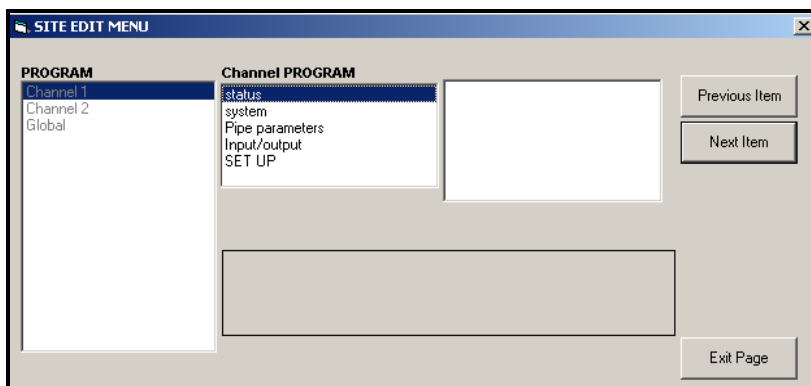

Figure C-10: The *Site Edit Menu* Window
- To enter data into the user program, double-click on the *Site Edit Menu*. The window appears similar to Figure C-10 below.
- To enter a particular menu (Channel 1, Channel 2, or Global), highlight and double-click on the desired menu in the left pane. For example, clicking on Channel 1 in Figure C-10 above opens the list of options shown in the center pane.
3. Double-click on the desired option. PanaView returns to the Channel menu shown in Figure C-10 on page C-9. Proceed to the System option.
- If you have activated neither option, PanaView returns to the Channel PROGRAM window shown in Figure C-10 on page C-9. Proceed to the Pipe option.
- If you have not enabled the option, PanaView returns to the Channel PROGRAM window shown in Figure C-10 on page C-9. Proceed to the Pipe option.